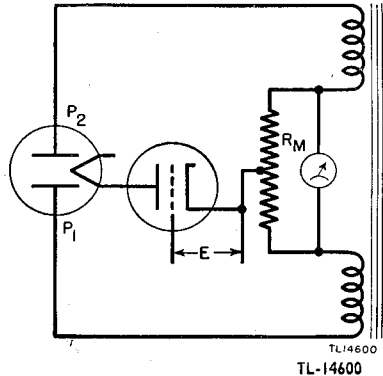

Figure 8. Tube Tester I-177, simplified mutual conductance test circuit.
b. If the vacuum tube to be tested is substituted for the fixed load resistance, and a fixed bias E is applied to the tube as in figure 8, the meter will still read zero because a vacuum tube under steady-state conditions acts like a fixed resistance.